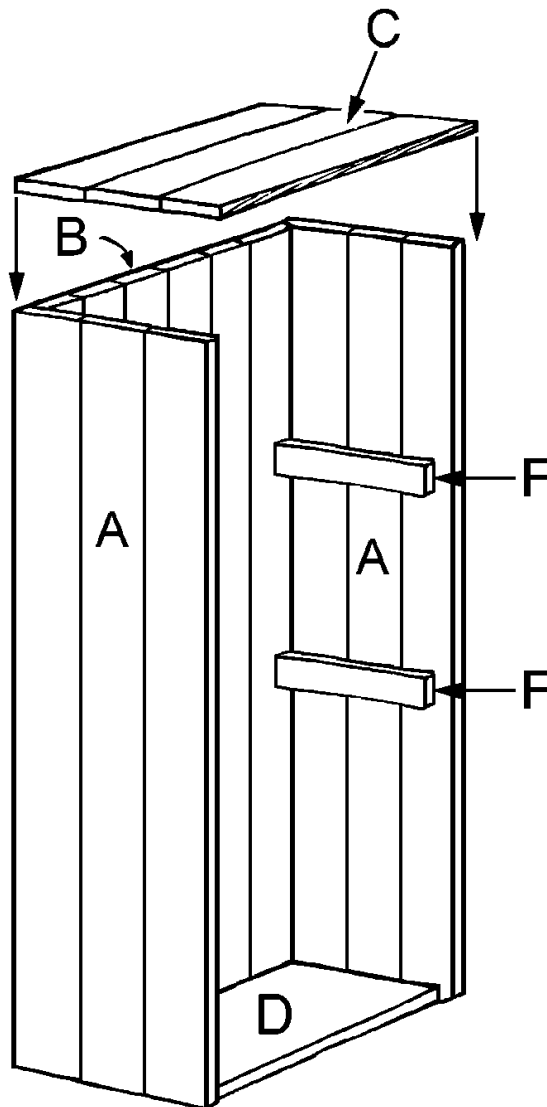

Figure 2
1. *Figure 2* shows the assembly of the cabinet. Note that the cabinet top, back, and sides are all flush at the rear, and that the top overhangs the sides and front by 1/2 inch. The bottom